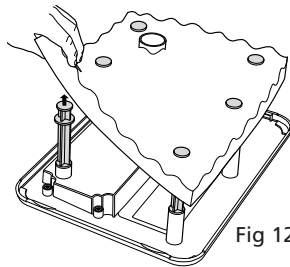

Fig 12
7.3 The foam is secured onto the ends of the spacers and the venturi tube. Remove the foam (Fig 12) and rinse it in the water left in the vessel. Do not over clean. Drain the vessel of all the waste and water.